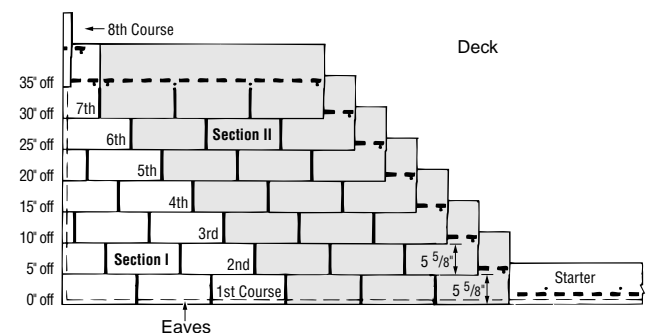

Figure 12-15: Eight-Course, Five-Inch, Stepped-Off Diagonal Method.
3. Continue with full-length starter-course shingles along the eaves. (*Figure 12-15*).
1. Begin the second course by cutting 5" off the left end of a shingle and applying the $3\frac{3}{8}$ " piece over the first-course shingle, flush with the left edge of the first-course shingle, and exposing the first course $5\frac{5}{8}$ " (Figure 12-15).
3. Install “Section II” as shown in Figure 12-15 using full shingles against the eighth courses in “Section I.” This must be done before continuing with course nine. These “Section II” shingles are to be butted-up against the “Section I” shingles.